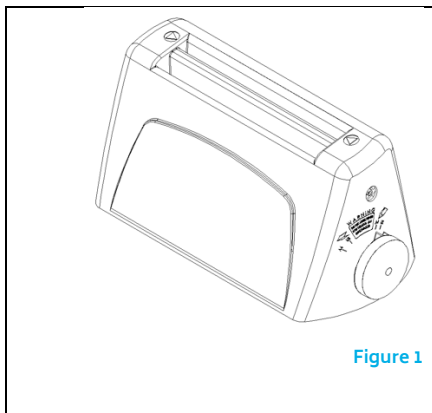

Figure 1
2. Locate the paper stop adjustment knob (Figure 1) on the right side of the folder. To adjust the paper stop, first push on the adjustment knob, and then rotate it to the desired position.